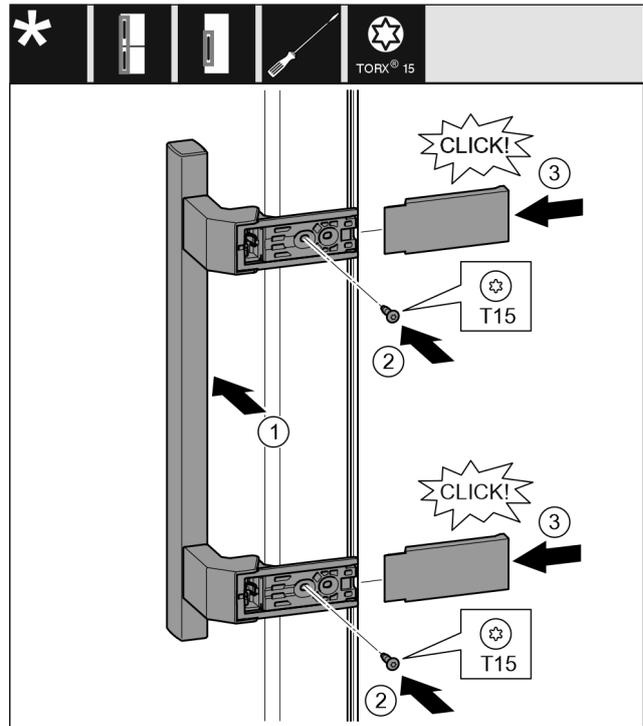

Fig. 19
- ▶ Position the handle on the other side. Fig. 19 (1)
- ▶ Tighten the screw with a T15 screwdriver. Fig. 19 (2)
- ▶ Position the covers on the side and push them on. Fig. 19 (3)